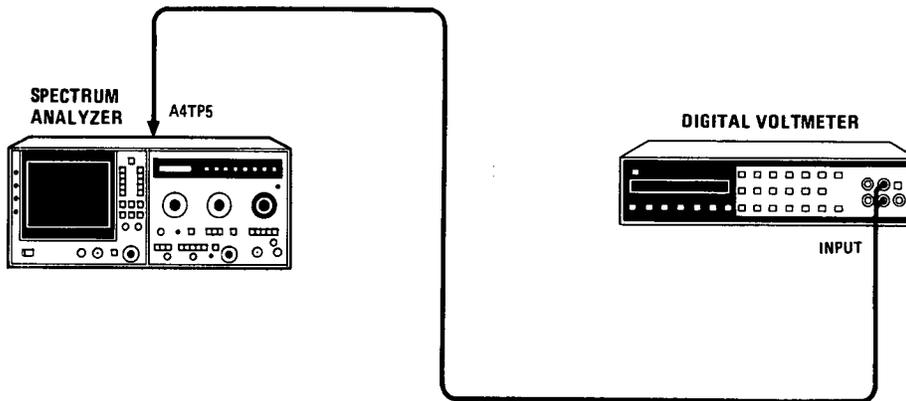

Figure 5-5. Z Axis Adjustment Test Setup
19. Connect voltmeter to A4TP5 CONT GATE (Figure 5-5). Gradually increase INTEN control to fully clockwise position. Voltage should not exceed +70V. Adjust A4R4 INTEN GAIN for a voltmeter reading of  $+70.0 \pm 0.2V$ .